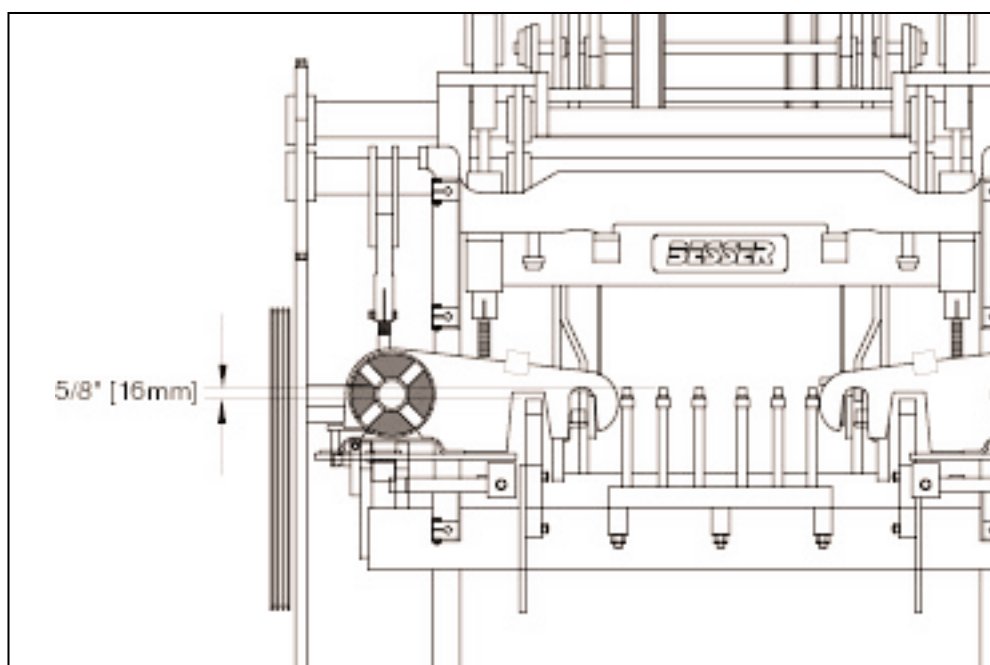

Figure 4.27 PALLET RECEIVER RUBBERS POSITION.
4.2.5 Adjust the pallet receiver frame so that the pallet receiver rubbers are **5/8" [16mm]** above the mold throat (see figure 4.27).